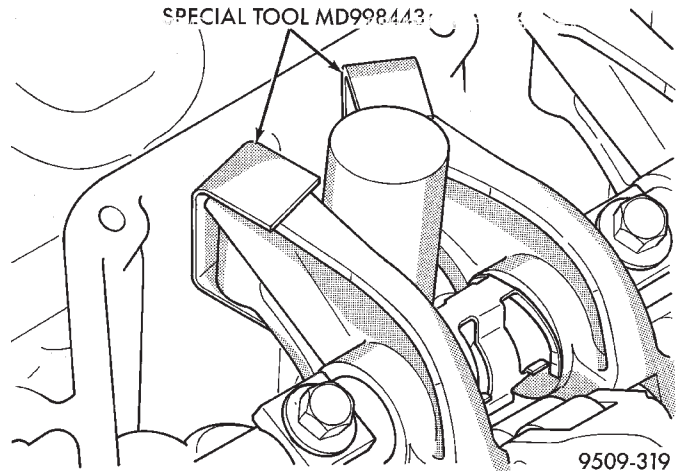

Fig. 35 Auto Lash Adjuster Retainers
- (1) Remove cylinder head cover using procedure outlined in this section.
- (2) Identify the rocker arm shaft assemblies before removal.
- (3) Install auto lash adjuster retainers, Special Tool MD-998443 onto rocker arms (Fig. 35). These retainers hold the lash adjusters into position when the rocker arms are serviced.
- (4) Loosen the attaching fasteners. Remove rocker arm shaft assemblies from cylinder head.